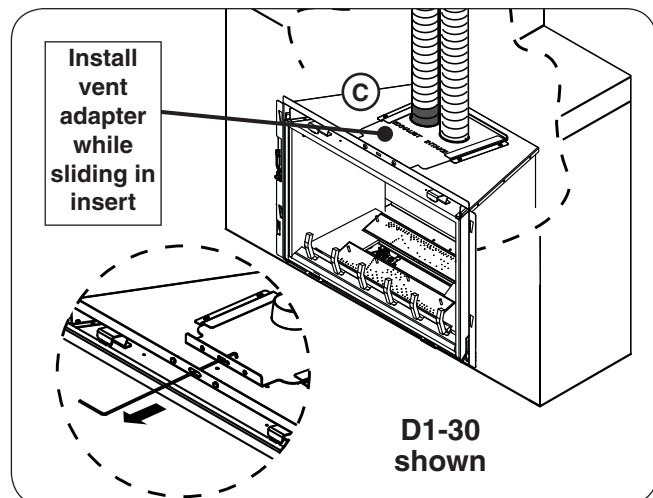

Fig. 27-3 Fully slide-in unit / install vent adapter
5. Slide the vent adapter into the top of the direct vent insert as shown in Fig. 27-3, C. Simultaneously slide the direct vent insert fully into the fireplace. The supplied wire hook can be used to assist in pulling the vent adapter forward into the insert. Fasten the vent adapter using the two hex bolts and a $\frac{7}{16}$ " nut driver.